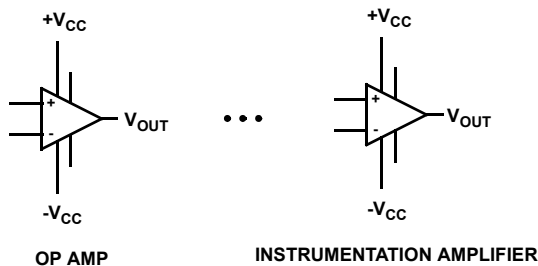

FIGURE 1.
- Its symbol looks like an op amp (see Figure 1)